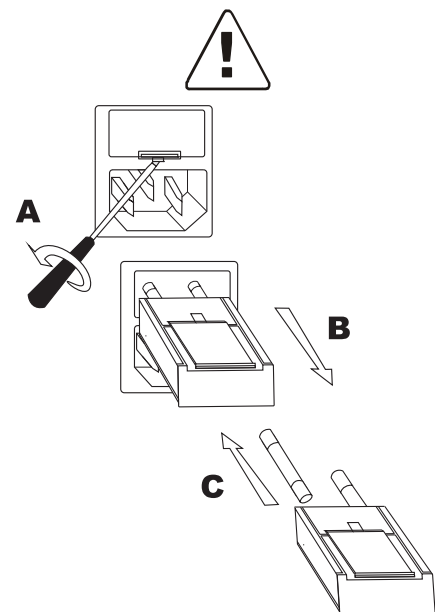

Fig. 9-1 Opening the fuse holder
5. Remove fuse holder as depicted in Fig. 9-1 "Opening the fuse holder".